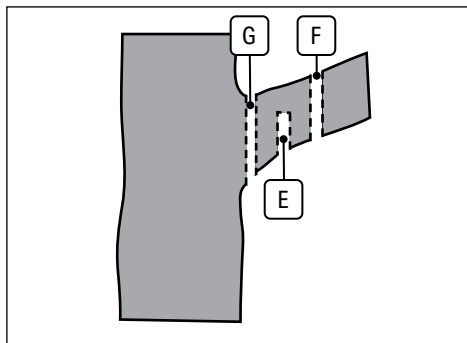

Fig. 20
- On the opposite side and 5cm higher than the bottom of the notch, make the felling cut (C) at 90°. Make the cut in one go and stop 5cm from the back of the notch. This creates the hinge (D) to help control the felling. The hinge must be parallel.
- Use the spike bumper (21) to obtain a firm grip and leverage while cutting.
7.8 Delimbing (Fig.20)
- Use the top of the guide bar for the initial cut (E) 1/3 through the tensioned underside of the limb.
- Make the second cut (F) all the way through using the underside of the guide bar.
- The third cut (G) is to leave a neat collar and only necessary if the tree is not being felled.